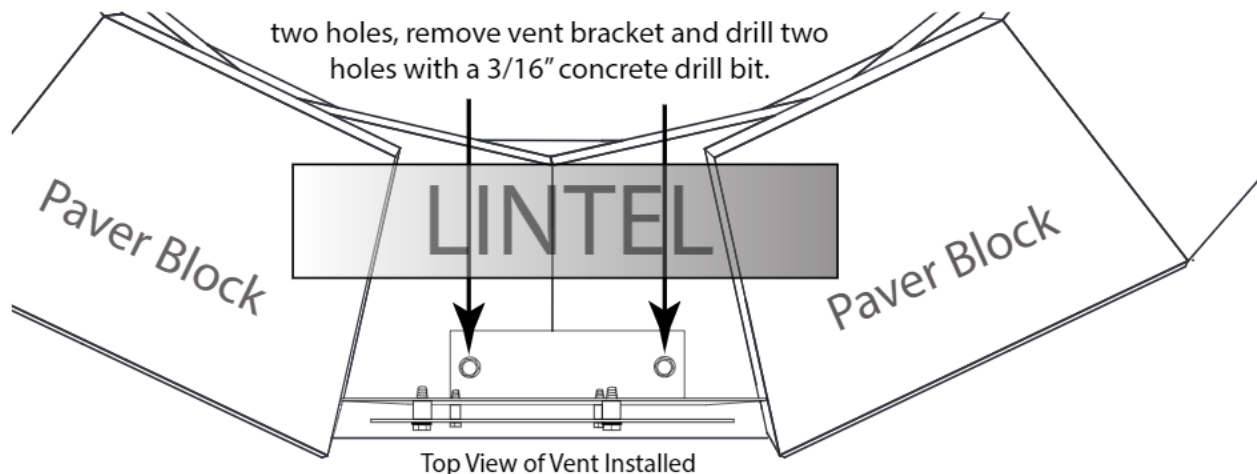

Fig. 4 Top view of vent installed with lintel (shaded area) supporting the back side.
The lintel (page 3, Fig. 4) is a 3" x 12" piece of sheet metal used to support the back side of the paver blocks.
Place the lintel across back side of the paver block to support your next row of blocks. See the shaded area in Fig. 4 showing the placement of the lintel. Securing the lintel with some type of adhesive is optional.
STEP 3: After you have determined the location and measured the width, install the vent kit bracket and mark the inside area as shown in Fig. 4.